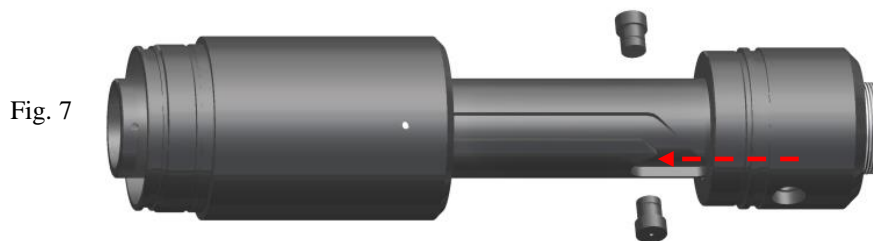

Fig. 7
L-1.32) Align holes in J-pin body (23) with running position of J-slot mandrel (20). Install J-pins (35) into J-pin body (23) (Fig. 7).